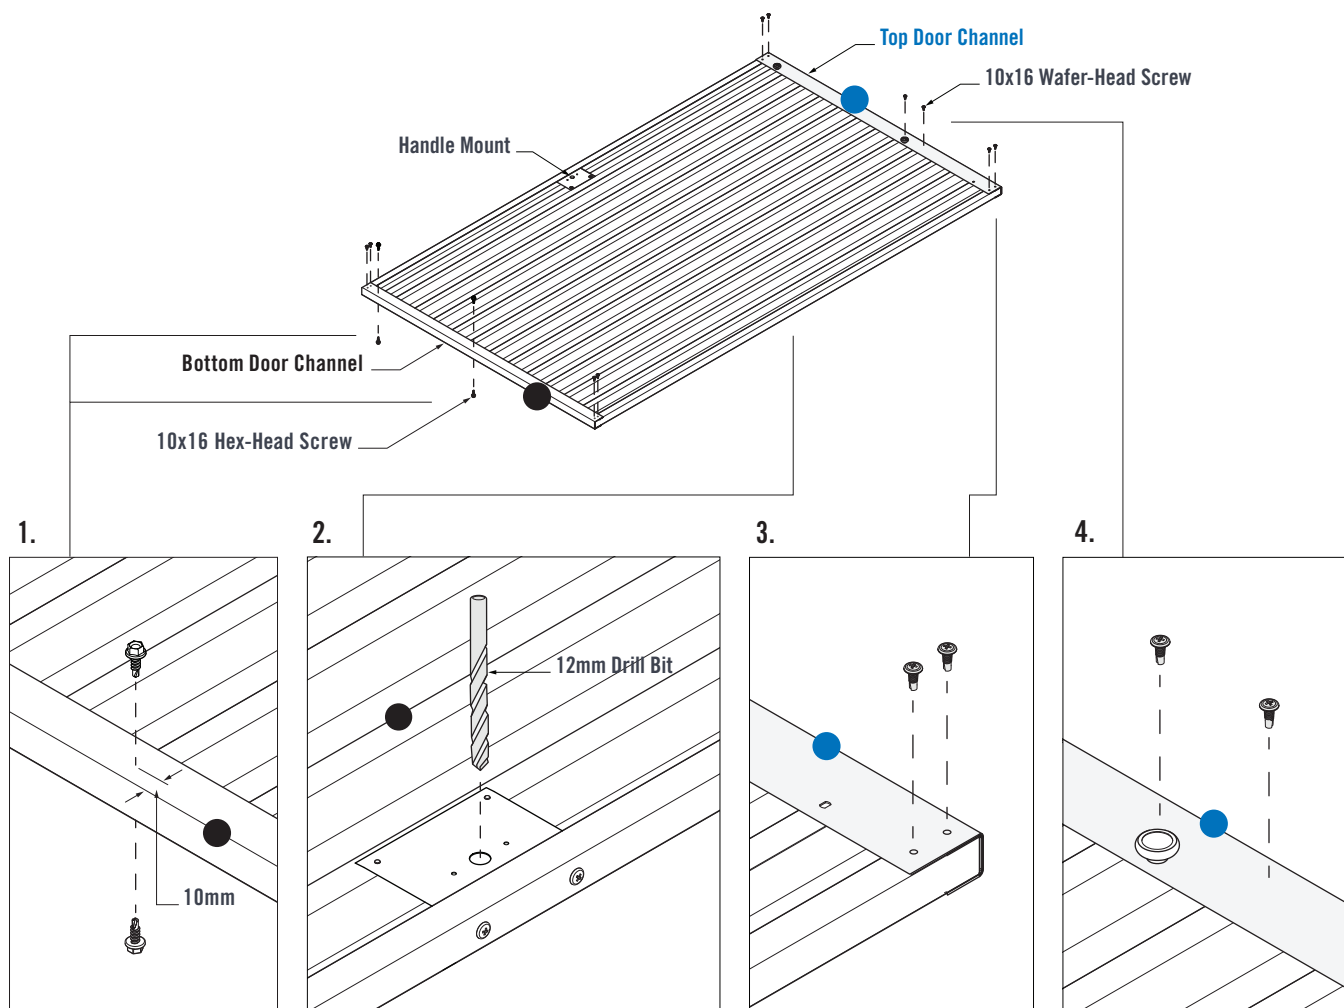

FIGURE 5.6
1. Fasten a 10x16 Wafer-Head Screw through the Door Spacer and into the mid-point pilot hole of the Bottom Door Channel. Fasten a Door Spacer near the Handle Mount end pilot hole of the Bottom Door Channel. Flip over the Door Assembly so that the underside is now facing up. Fit two more Door Spacers in the same manner on the opposite side of the Bottom Door Channel (Figure 5.6).
2. Using the holes in the Handle Mounts as a guide, drill a  $\varnothing 3.5$ mm pilot hole, then  $\varnothing 12$ mm hole through the Wall Sheet (Figure 5.6).
3. Fasten two 10x16 Wafer-Head Screws through pilot holes in the Top and Bottom Door Channels and into the Vertical Door Channels at all four corners (Figure 5.6).
4. Fasten a 10x16 Wafer-Head Screw through the Top Door Channel and into the two Sheet Crests on both sides of the Door Wheel (Figure 5.6).